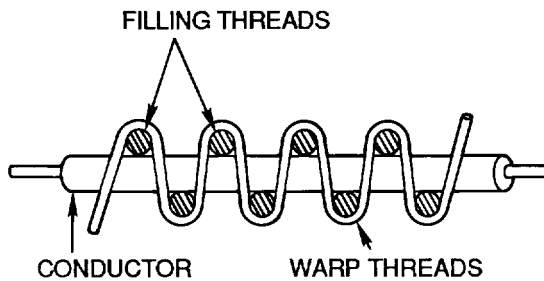

Figure 5. Plain Weave
(1) **Plain Weave.** The plain weave uses a filling thread and two warp threads woven mechanically to maintain conductor placement. A typical plain weave is illustrated (Figure 5).